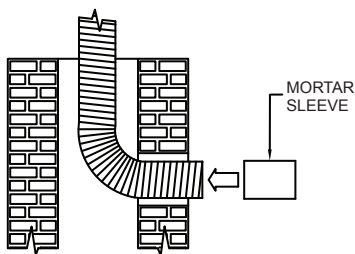

Figure 7
Step 6. Slide the Mortar Sleeve over the DuraFlex Liner until the Mortar Sleeve is flush with the wall of the chimney (**Figure 7**). Once the Mortar Sleeve is in place, the space between the sleeve and the masonry may be filled with grout.